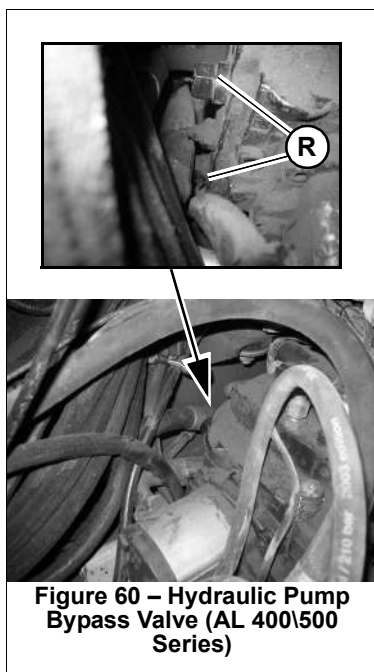

Figure 60 – Hydraulic Pump Bypass Valve (AL 400/500 Series)
3. Loosen the bypass valve bolts (R, Fig. 60) three turns.